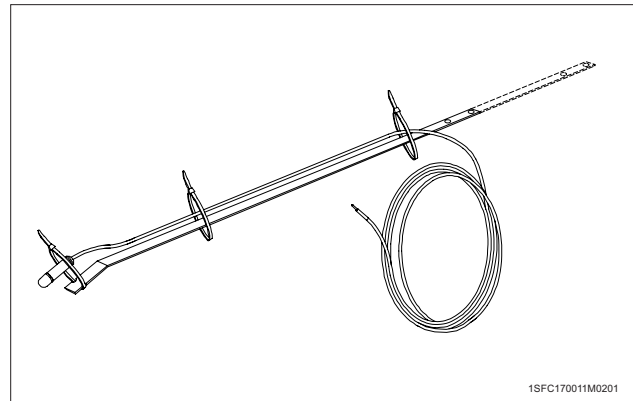

Figure 7
3. Attach the detector to the upper side of the bracket. See **Figure 7**.